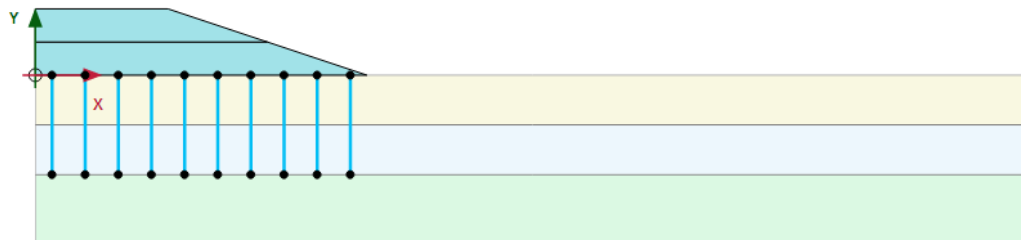

Figure 110: Final geometry of the model
2. Drains are defined in the soft layers (clay and peat; $y = 0$ m to $y = -6$ m). The distance between two consecutive drains is 2 m. Considering the symmetry, the first drain is located at 1 m distance from the model boundary. 10 drains will be created in total. The **head** is defined at 0.0 m. The geometry is shown in Figure 110 (on page 131).